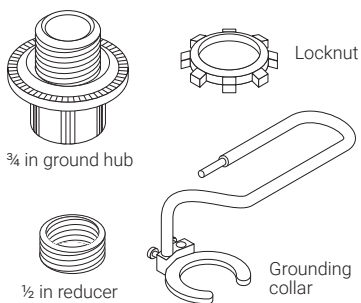

Figure 25: Typical ground hub
Nonmetallic junction boxes may be used providing that the NPT threaded connector is grounded using a ground hub as shown in Figure 25. Use a  $\frac{3}{4}$  in NPT ground hub with a  $\frac{1}{2}$  in reducer; this will allow the pot on the end of the cold lead to be fed into the junction box.
**Important:** Ensure that the heating cable copper sheath is properly grounded. This can be accomplished by connecting the cold lead into a metallic junction box with threaded entries and tightening the gland connector to the recommended torque. When connecting the cables to nonmetallic junction boxes, use ground hubs (see Figure 25) to ensure that the heating cable sheaths will be properly grounded.